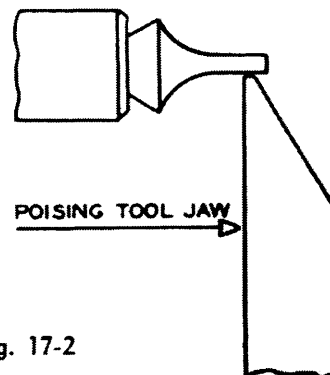

Fig. 17-2
1. The balance wheel is set between the jaws of the poising tool with the pivots (not the cones) resting on the polished, knife-like edges of the poising tool, figure 17-2.